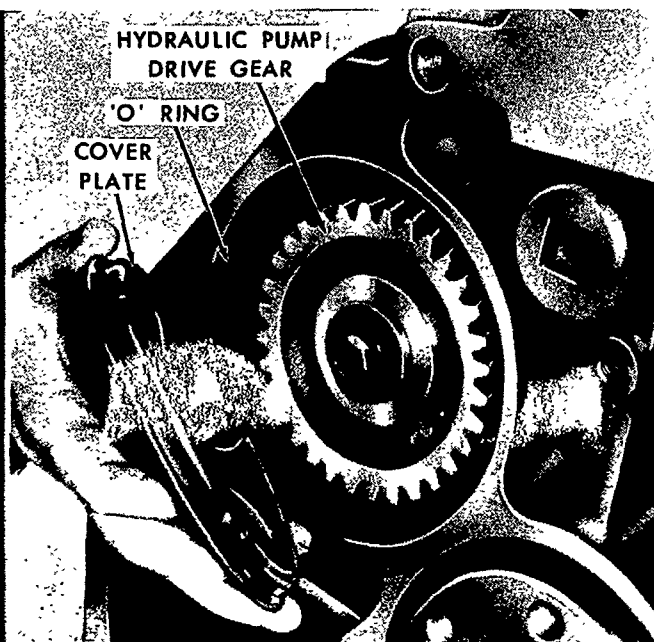

Figure 76
11. Drive out the camshaft rear cover plate with a punch and hammer, as shown in Figure 76.